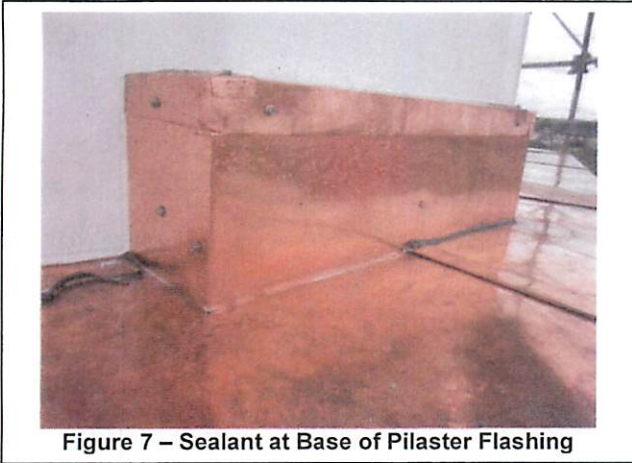

Figure 7 – Sealant at Base of Pilaster Flashing
- 12 - Bronze sealant at base of Copper Pilaster Flashings to be removed and small, neat bead of non-curing butyl sealant shall be installed at this joint. **Figure 7**
- 12 - Bronze sealant at base of Copper Pilaster Flashings to be removed and small, neat bead of non-curing butyl sealant shall be installed at this joint. **Figure 7. At time of review, there was one more location where this work needed to be performed.**